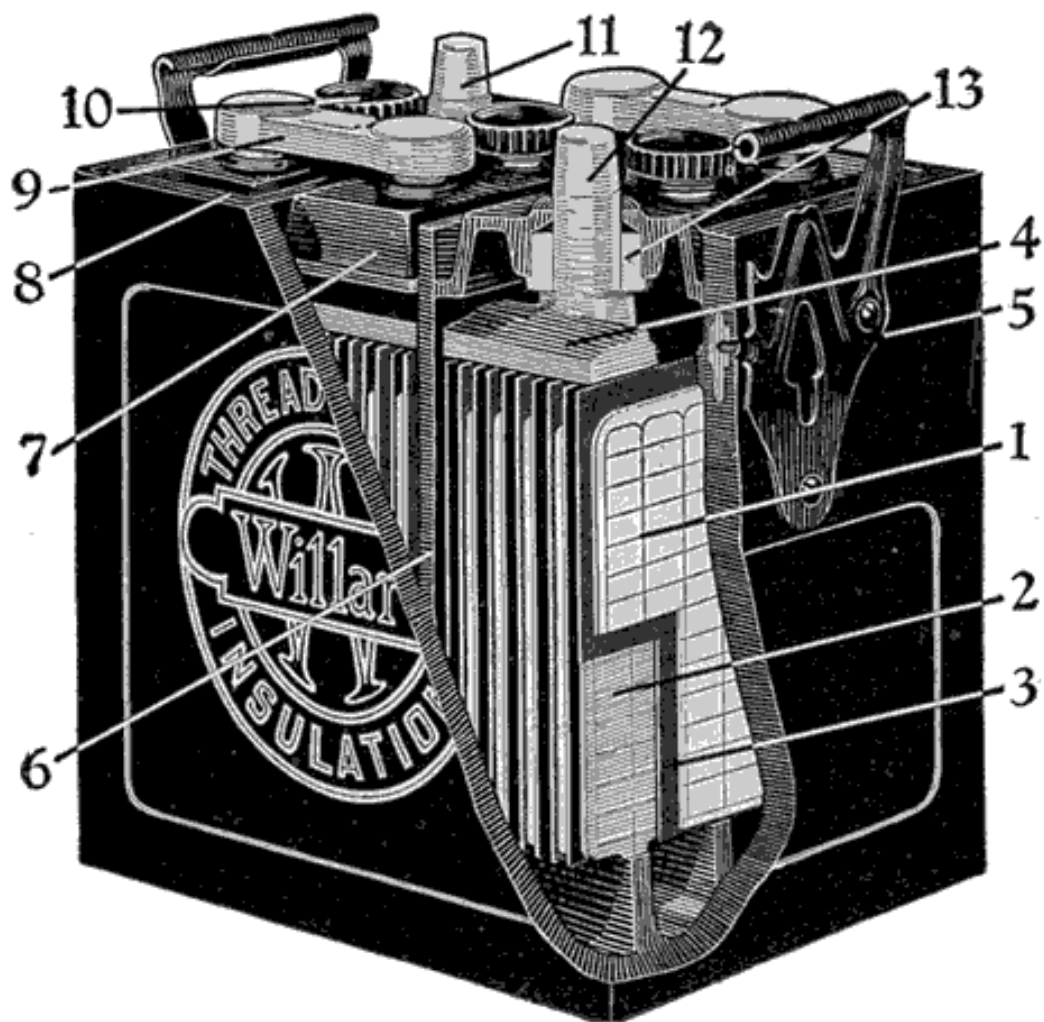
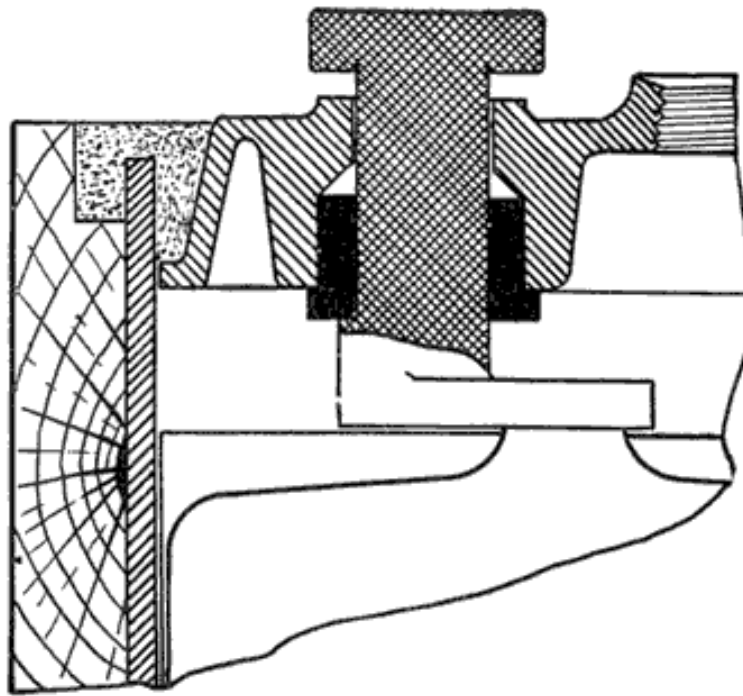
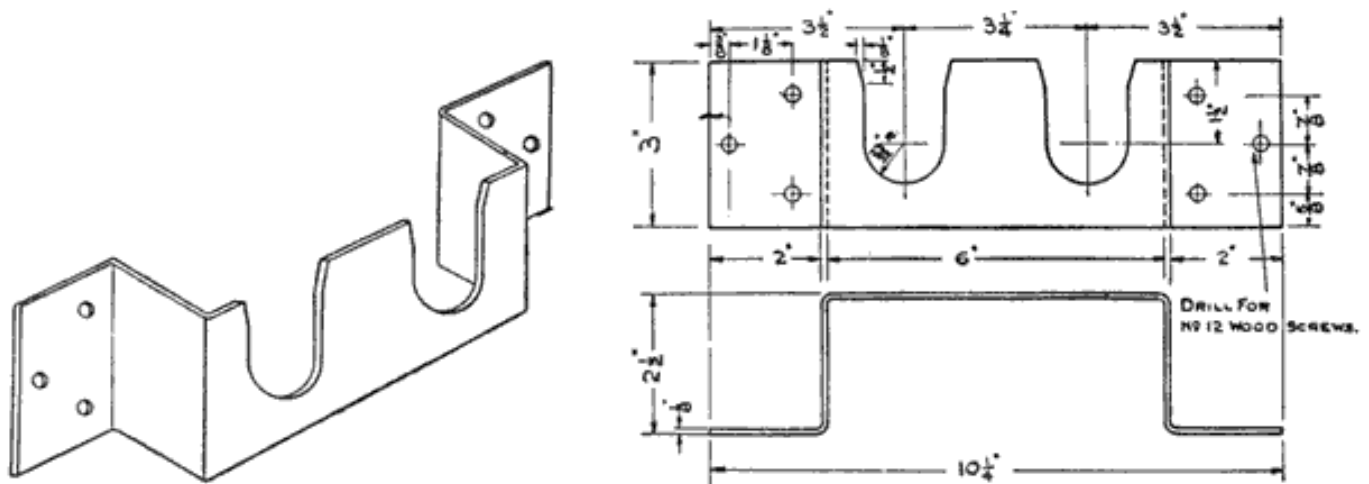

Fig. 287. Willard Gasket Seal Battery
Fig. 288. Details of Willard Gasket Seal
Fig. 289. Cover Removal Frame for Willard Gasket Seal Battery
Fig. 287 shows this type of construction, used on types SJRG and SLWG. Fig. 288 shows the seal in detail. A soft rubber gasket is slipped over the post, and the cover is pushed down over the gasket. For removing the covers, have a cover removal frame made as shown in Fig. 289. Fasten the frame to a solid wall or bench so that it will withstand a strong pull. In rebuilding this type of battery proceed as follows:
3. To remove covers. Saw the post stubs off flush with the covers. Place the element in the cover removal frame (Fig. 289) and pull steadily on the element. A little swaying motion from side to side may help in loosening the covers. If any of the gaskets remain on the posts when the covers are removed, replace them in the cover and thoroughly dry the inside with a rag.